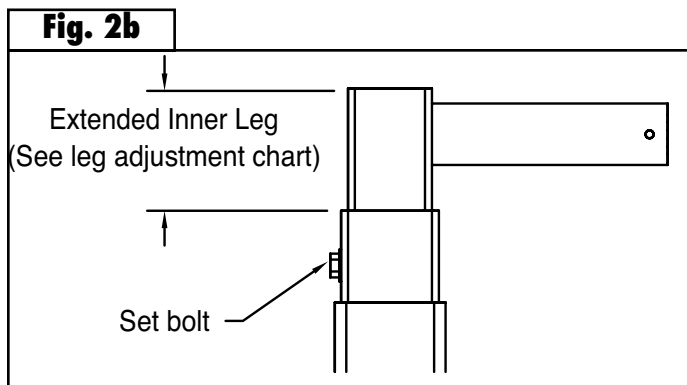

Fig. 2b
3. The inner leg should be adjusted now by loosening the set bolt as shown in Fig. 2b and extending the inner leg. See the chart below and Fig. 2b for approximate inner leg extension. Use this chart as a reference only. Never exceed 13" of extended length. Torque to 40 ft/lbs.